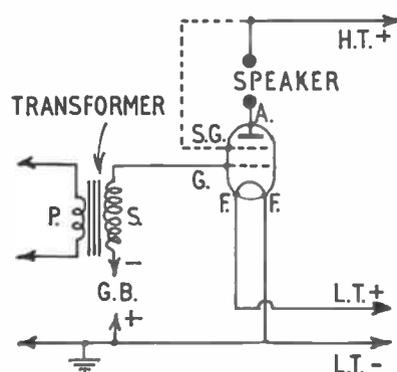

Fig. 1—Transformer coupling
This uses a coupling transformer with a ratio of about 1:3 or 1:5, as shown in Fig. 1. The primary (P) is taken to the phone terminals of the crystal set or 1-valver. The secondary goes to grid bias negative, and valve grid. A transformer